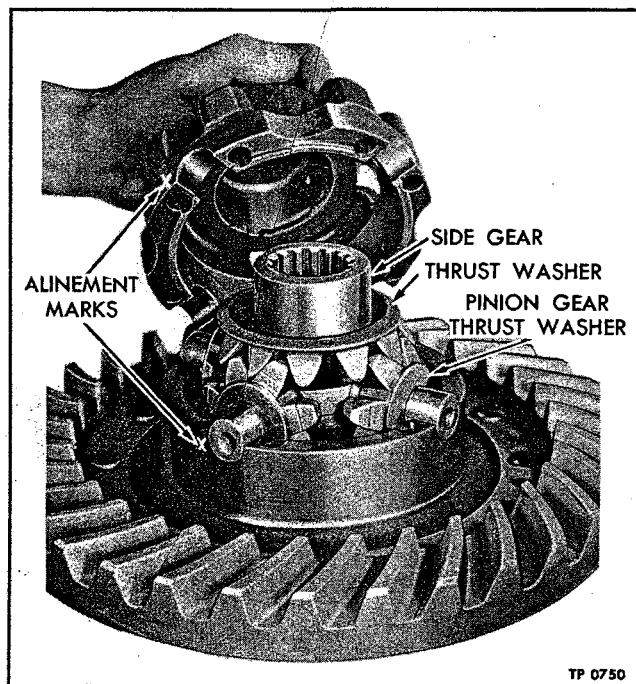

Figure 3—Differential Case Alignment Marks
1. Mark both halves of differential case (2) so halves may be reassembled in original positions (fig. 3).